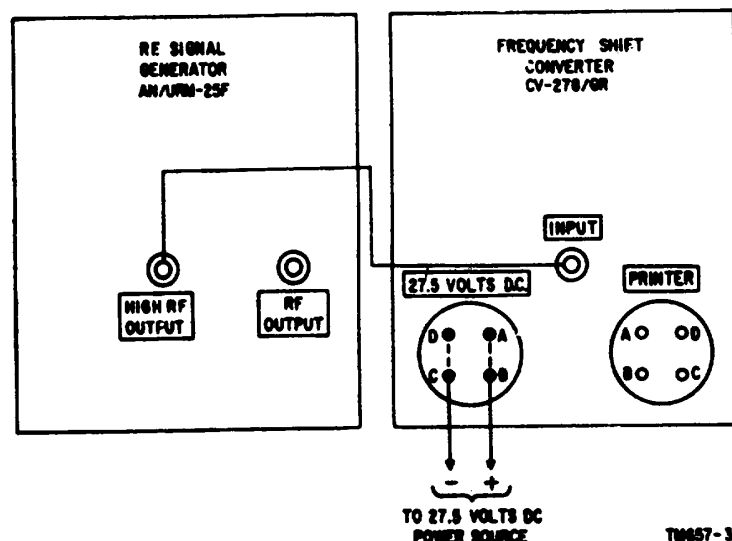

Figure 21. Test setup for alinement.
The slotted screws for the alinement of the tuned circuits of T101 and Z101 are accessible on the top of the individual components (fig. 17). Connect the equipment as shown in figure 21.
a. Connect the equipment as shown in figure 21. Ground the units together.